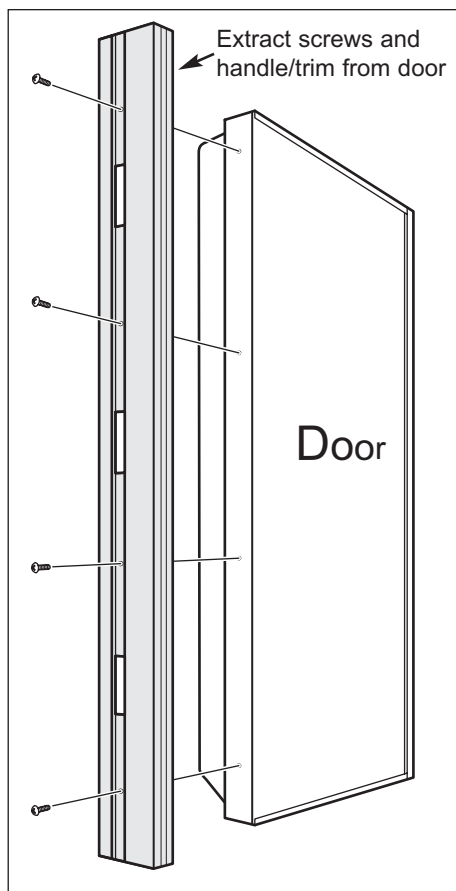

Figure 2-10. Handle/Trim Removal
- Extract mounting screws and handle/trim from door (See Figure 2-10).